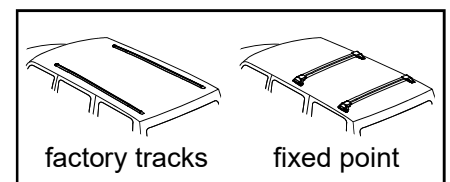

fig. 1
- For factory-tracks or fixed-points (see figure 1), ensure that the roof does not deform when heavy loads are applied.